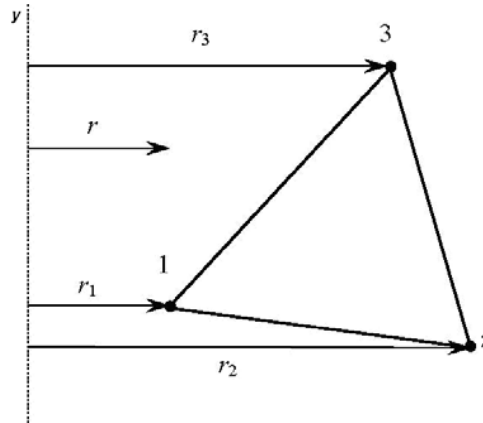

Figure 3
c) Evaluate the axisymmetric stiffness matrix \mathbf{K} of the triangular element shown in the figure 3. Consider the coordinates of nodes as 1 (2, 1), 2 (4, 0), and 3 (3, 2). Also assume $E = 2.6 \text{ GPa}$ and $\nu = 0.2$.